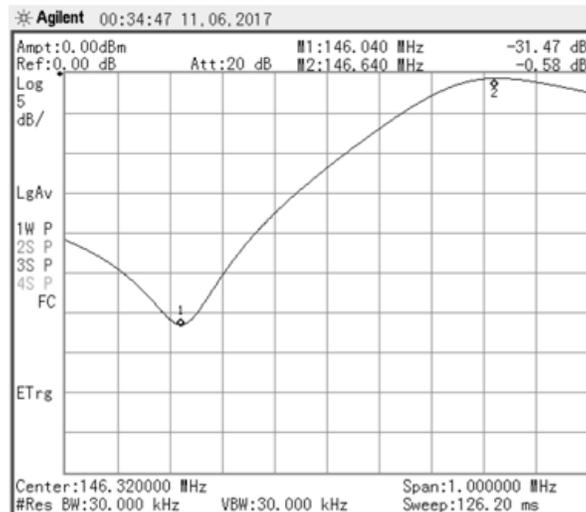

Figure 1
Figure 1 shows the response of the Wacom Bp-Br cavity adjusted to 146.04 MHz (notch) and 146.64 MHz (pass) frequencies. The pass (146.64 MHz) attenuation is **0.58 dB** and the notch (146.04 MHz) rejection was **31.47 dB**.
The cavity resonator tuning knob is adjusted for minimum attenuation of the pass frequency. Figure 1 shows that the Wacom cavity insertion loss was only 0.58 dB at the pass frequency. To measure the cavities characteristics at 146.64 MHz, the T connector was removed and the vector network analyzer (VNA) was attached to the loop port.
Figures 6 show that reject frequency (146.04 MHz) impedance (Z) is 1.7 ohms which acts like a short to the reject frequency. Figure 1 shows that the cavity attenuation at the reject frequency was 31.47 dB.